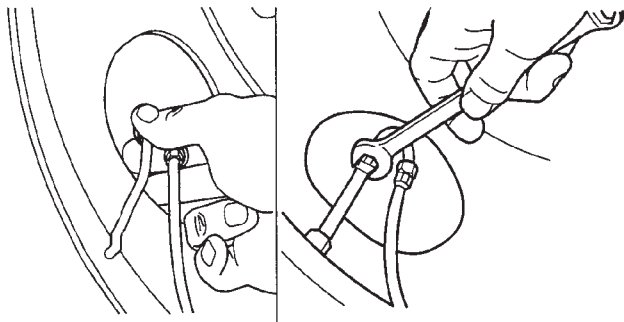

Figure 23: Attaching tire hoses to tire valve stem
4. **Tighten** the tire hose/valve stem connection finger tight (Figure 23).
5. Using a 7/16 inch wrench, **tighten** the tire hose / valve stem connection an additional one-half turn (Figure 23). **Do not overtighten this connection**.